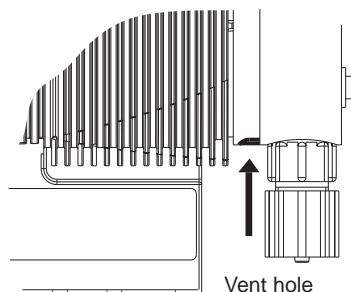

Fig. 24
- ▶ Check that the liquid end is generally watertight (especially vent hole! See fig. 24)
- ▶ Loosen the liquid end (2) and the top plate (4) from the pump housing (6) (loosen only!).
- ▶ Hold the housing (6) in one hand and with the other, clamp the diaphragm (3) between the liquid end (2) and the top plate (4); release the diaphragm (3) from the drive spindle with a light anticlockwise turn of the liquid end (2) and top plate (4).
- ▶ Unscrew the diaphragm (3) completely from the drive spindle.
- ▶ Remove the top plate (4) from the housing (6).
- ▶ Check the condition of the safety diaphragm (5) and replace if necessary.
- ▶ Push the safety diaphragm (5) only as far onto the drive axis until it lies flat on the pump housing (6) – no further!
- ▶ Screw the new diaphragm (3) carefully up to the stop on the drive axis – this must be exact to ensure correct metering!
- ▶ Screw the diaphragm (3) tight once more.
- ▶ Position the top plate (4) on the pump housing (6).
- **The leakage hole must point downwards when the pump is fully assembled (see fig. 24).**
- **Position the top plate (4) correctly on the pump housing (6). Do not distort the top plate on the pump housing, otherwise the safety diaphragm (5) will not fit.**
- ▶ Lay the diaphragm (3) into the top plate (4).
- ▶ Hold the top plate (4) and screw the diaphragm (3) in a clockwise direction until it is firmly in position (you will feel the resistance of the return spring).
- **Do not overtighten the diaphragm (3) (particularly on type 1601).**
- **The top plate (4) must remain in position to prevent the safety diaphragm (5) from distorting.**
- ▶ Place the liquid end (2) with the screws (1) on the diaphragm (3) and the top plate (4) (the priming connector must point downwards once the pump is fully assembled).
- ▶ Screw on screws (1) lightly and tighten (starting torque, see below).